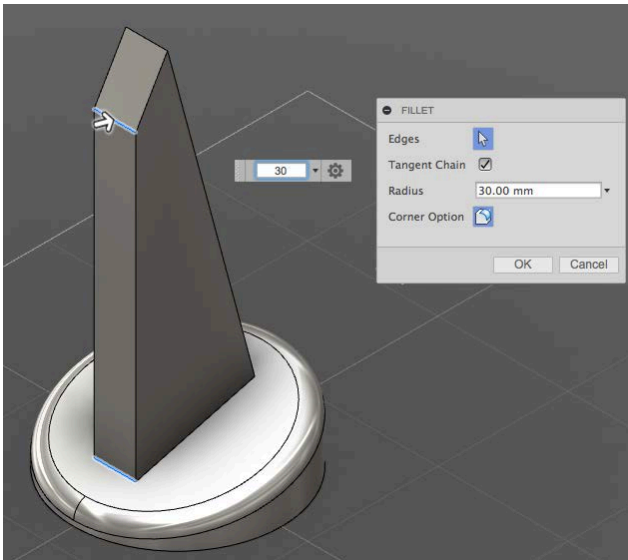

Fig. L07
8. Add a 30mm fillet to the top and bottom edges of the back face (Fig.L07).